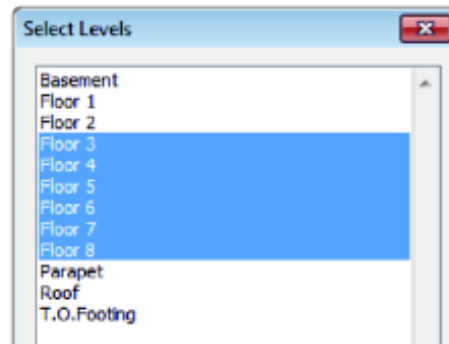

Figure 5–17
5. In the Select Levels dialog box, select the floors between and including **Floor 3** and **Floor 8**, as shown in Figure 5–17.
6. Click **OK**. The windows are copied up the side of the building, as shown in Figure 5–18.